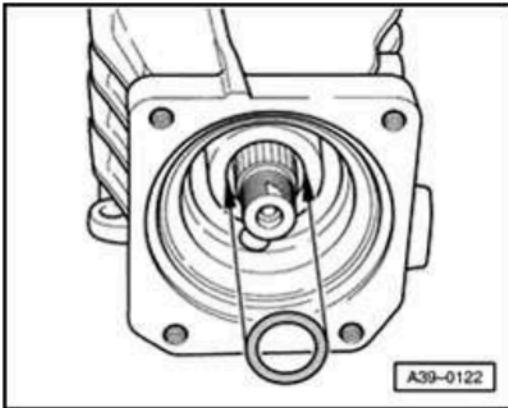

Fig. 105: Inserting O-Ring
- Insert with gear oil. See Fig. 105